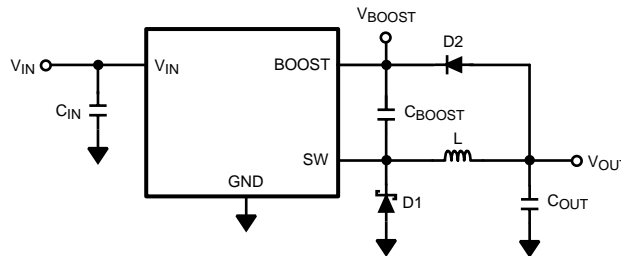

**Figure 20. LMR12007 Waveforms of SW Pin Voltage and Inductor Current**
The following operating description of the LMR12007 will refer to the Simplified Block Diagram (Figure 19) and to the waveforms in Figure 20. The LMR12007 supplies a regulated output voltage by switching the internal NMOS control switch at constant frequency and variable duty cycle. A switching cycle begins at the falling edge of the reset pulse generated by the internal oscillator. When this pulse goes low, the output control logic turns on the internal NMOS control switch. During this on-time, the SW pin voltage ( $V_{SW}$ ) swings up to approximately  $V_{IN}$ , and the inductor current ( $I_L$ ) increases with a linear slope.  $I_L$  is measured by the current-sense amplifier, which generates an output proportional to the switch current. The sense signal is summed with the regulator's corrective ramp and compared to the error amplifier's output, which is proportional to the difference between the feedback voltage and  $V_{REF}$ . When the PWM comparator output goes high, the output switch turns off until the next switching cycle begins. During the switch off-time, inductor current discharges through Schottky diode D1, which forces the SW pin to swing below ground by the forward voltage ( $V_D$ ) of the catch diode. The regulator loop adjusts the duty cycle (D) to maintain a constant output voltage.
In the Simplified Block Diagram of Figure 19, capacitor  $C_{BOOST}$  and diode D2 supply the gate-drive current for the NMOS switch. Capacitor  $C_{BOOST}$  is charged via diode D2 by  $V_{IN}$ . During a normal switching cycle, when the internal NMOS control switch is off ( $T_{OFF}$ ) (refer to Figure 20),  $V_{BOOST}$  equals  $V_{IN}$  minus the forward voltage of D2 ( $V_{FD2}$ ), during which the current in the inductor (L) forward biases the Schottky diode D1 ( $V_{FD1}$ ). Therefore the voltage stored across  $C_{BOOST}$  is